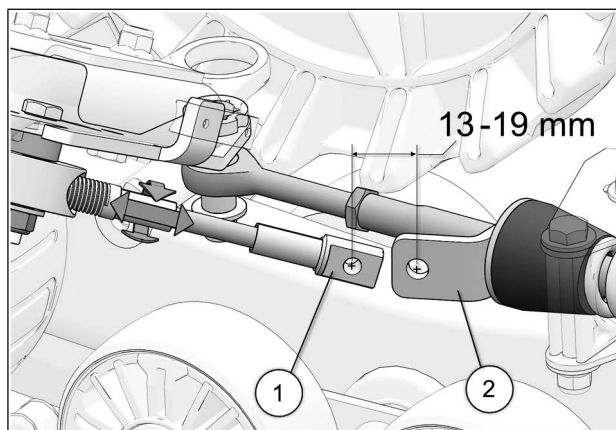

Fig. 25
17. Turn the vehicle's steering wheel to its maximum point of travel on the left. While maintaining pressure on the steering wheel, turn threaded rod to adjust length of cable. See Fig. 25
18. Position cable end hole (1) 13-19 mm short of support plate mounting hole (2). See Fig. 25